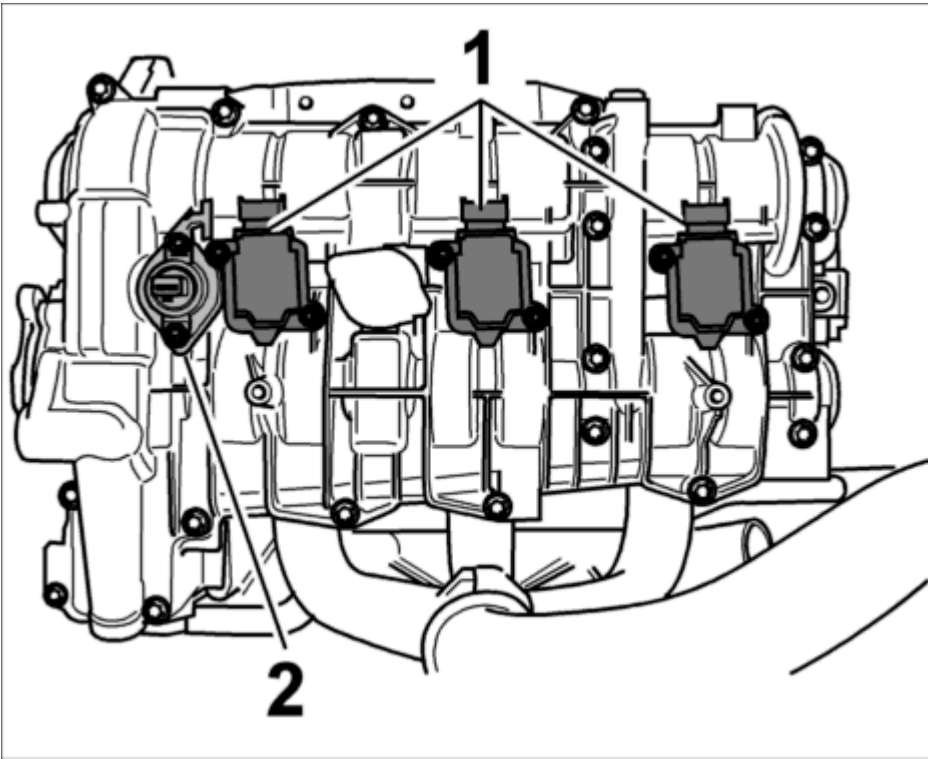

Fig. 211: Hydraulic valve for camshaft adjustment and ignition coils
2. Disconnect and remove cable plugs for ignition coils. Remove ignition coils **-1-** ; to do this, unscrew each of the two Torx screws (M6 x 25) and remove the ignition coils from the spark-plug recess. See **Fig. 211**.
3. If necessary, remove camshaft adjustment valve -2- by unscrewing the Torx screws (M6 x 20). Remove support and retainer plate (with integrated seal). Pull solenoid hydraulic valve for camshaft adjustment out of the bore if this needs to be replaced. Replace retainer plate (with integrated seal) during installation. See **Fig. 211**.